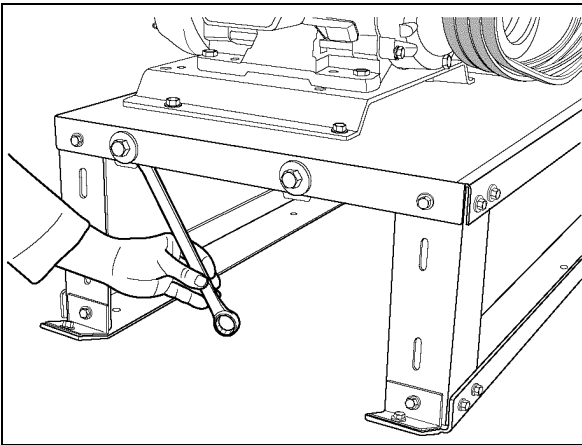

Figure 7F
6. Keeping the motor in proper alignment is necessary and can be accomplished by using an open-end wrench to turn the nut on the take-up bolt closest to the rear of the motor. This nut is located behind the flange of the blower base. Adjust if necessary. Tighten the (4) flange head bolts that secure the motor mounting plate to the blower base. Re-Install Drive Shield. (See *Figure 7F*)